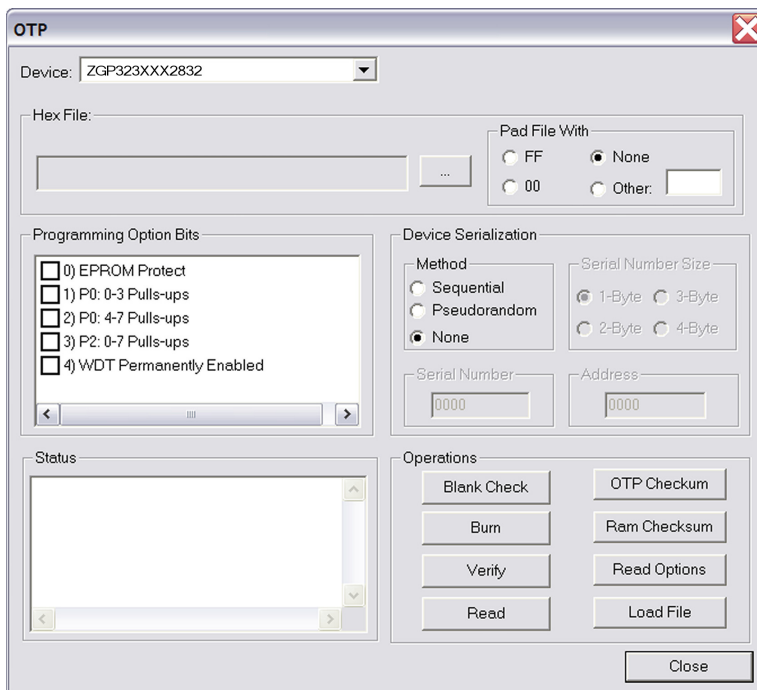

Figure 3. OTP Programming Window (Hex File Example)
26. Select Tools > OTP Programming to open the OTP window (Figure 3).